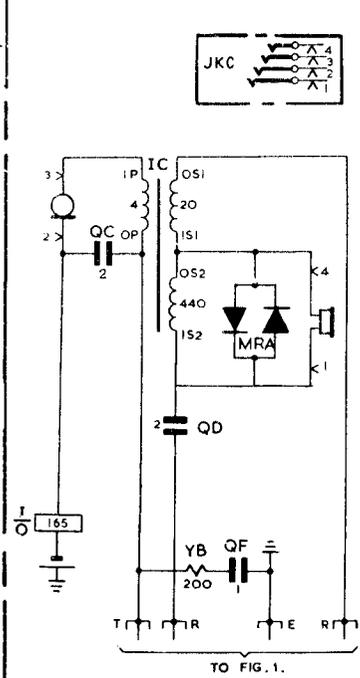
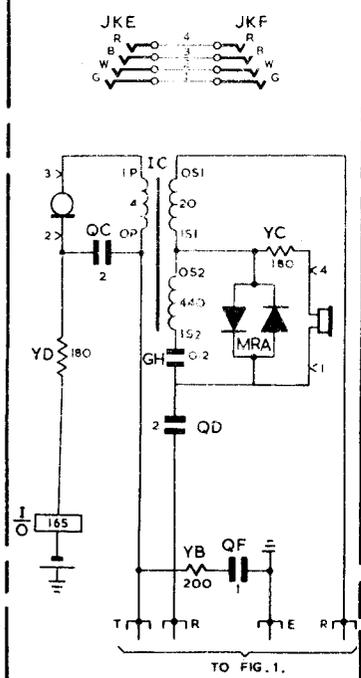

FIG. 9A OPERATOR'S CIRCUIT SUPERSEDED BY FIG. 9B FOR NEW WORK ON $\frac{10 + 30}{65}$ & $\frac{10 + 50}{65}$ (NOTE 5)
FIG. 9B OPERATOR'S CIRCUIT (NOTE 5) $\frac{10 + 30}{65}$ & $\frac{10 + 50}{65}$
Receiver & Transmitter (Fig.9A & 9B)	(Headset No.1 & Plug No.420 with Cord No.4/77 AB Grebe 54" (Note 5)
- (ii) On Switchboards wired to Figs. 9A and 9B provide Handset No.3 and Plug No.420 with Cord No.4/90 AB-48" and Hook Receiver 'N'.
FIG. 9 OPERATOR'S CIRCUIT SUPERSEDED BY FIG. 9B FOR NEW WORK ON $\frac{10 + 30}{65}$ & $\frac{10 + 50}{65}$ & BY FIG. 9A FOR NEW WORK ON $\frac{10 + 60}{180}$ (NOTE 5)